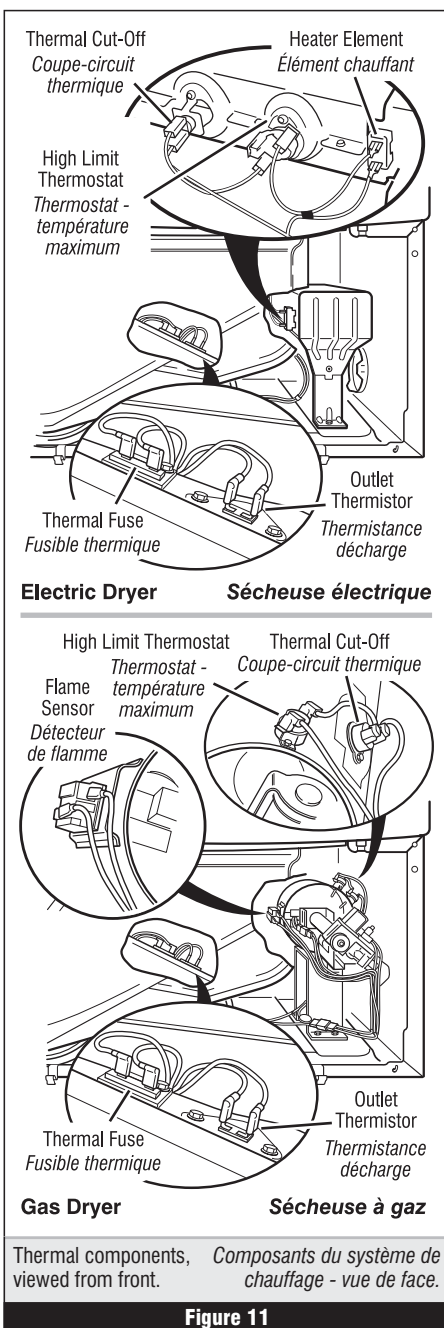

Figure 11
Locate the components using figure 11, page 9.
À l'aide de la figure 11, page 9, identifier les composants.
5. Locate the high limit thermostat. See figure 11. Measure the continuity through it by connecting the meter probes on the red wire and black wire terminals.
→ Check wire connections at the machine control electronics and thermistor. See Accessing & Removing the Electronic Assemblies on page 14, and for thermistor location see figure 11.
5. Identifier le thermostat de température maximum; voir la figure 11. Contrôler la continuité à travers le thermostat : connecter l'instrument sur les broches rouge et noir.
→ Contrôler les branchements sur les broches du module de commande électronique de la machine et la thermistance. Voir la page 14 – Modules électroniques – Accès et dépose, et la figure 11 pour l'emplacement de la thermistance.
2. Access the thermal fuse by first removing the toe panel. See Removing the Toe Panel, page 13; and for thermal fuse location see figure 11, page 9.
3. Using an ohmmeter, check the continuity across the thermal fuse. See figure 11 for location.
3. Using an ohmmeter, check the continuity across the thermal cut-off. See figure 11, page 9 for location.